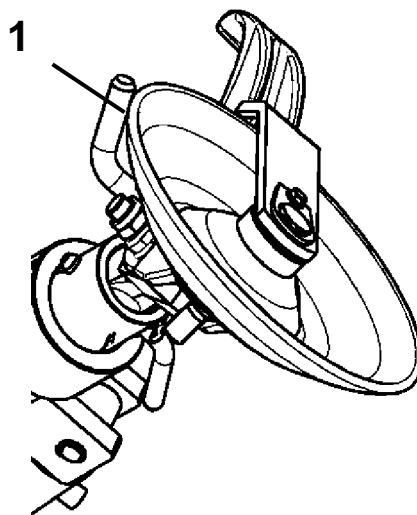

Fig.15a
- G. THE TOOL LOCKING PIN (1, Fig.15a) MUST BE APPLIED ONLY WHEN USING THE DISC TOOL ON RIM WHEELS.